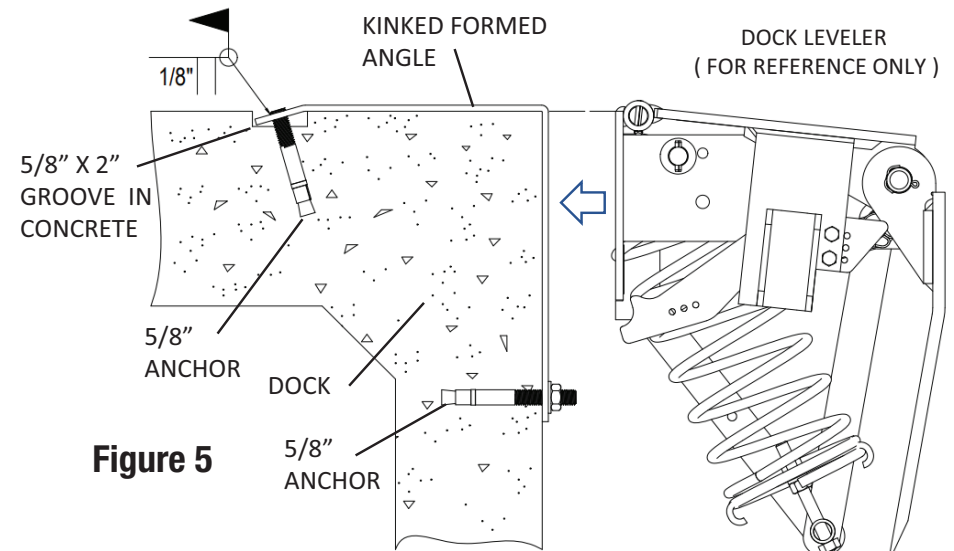

Figure 5
4. If kinked formed angle is used, mark on dock floor along full length of kinked edge of angle. (See **Figure 5**)